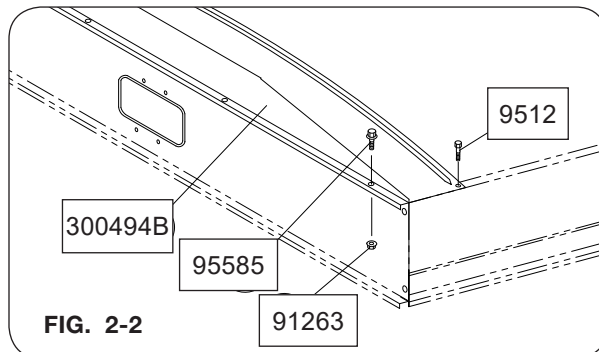

FIG. 2-2
2. Remove mounting bezel and measure $\frac{7}{8}$ " from most rearward hole (farthest from fender front edge) to locate third hole, see figure 2-2. Mark location and drill a $1 \frac{1}{16}$ " diameter hole. See figure 2-3.
2. Assemble the end caps (300494B) to the front and rear side boards with flange screws (95585) and flange nuts (91263). Fasten to right and left side boards with 1/4 x 1 self-drilling screw (9512). See FIG. 2-2.